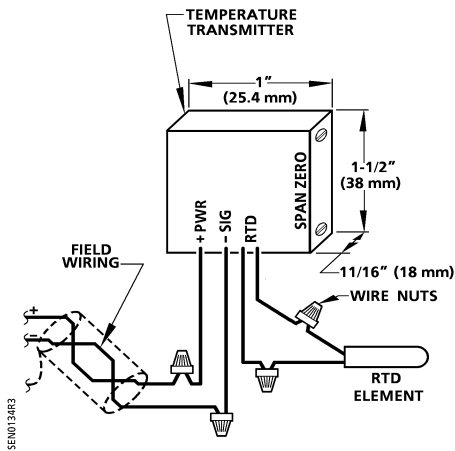

Figure 1. Analog Temperature Transmitter Wiring Connections.
8. Strip the field wires with wire cutters and connect the positive (+) 26V lead wire to the transmitter's PWR wire. Connect the signal lead wire to the transmitter's SIG wire. See Figure 1 and Table 1.